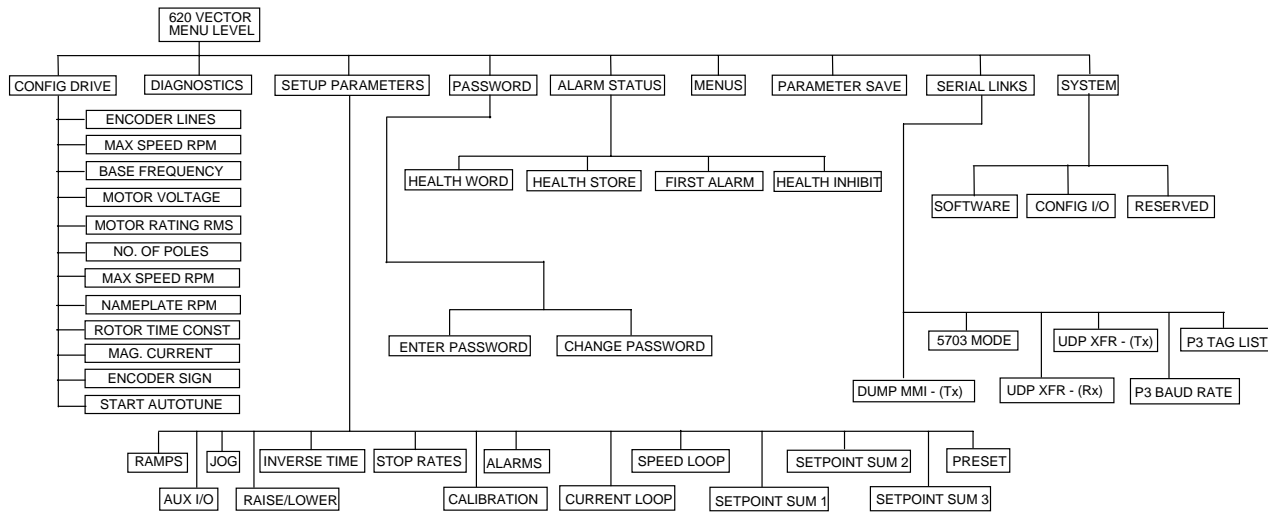

Figure 4.3 - Main Menu Options
The MMI comprises several hundred menu options (shown in Figure 4.3). The    and  buttons navigate through the menus.
The options available to the user from the main menu are given in Figure 4.3. These options are briefly described in the following paragraphs which include references for further details.
1. Press (M) (M). The display will show 'MENU LEVEL / DIAGNOSTICS'. Pressing the (Δ) and (▽) buttons will enable you to move around the top level menu. Press (Δ) until the display shows **CONFIGURE DRIVE** (if you miss **CONFIGURE DRIVE** or any other menu item, either use the (▽) button to get back or keep pressing (Δ) until **CONFIGURE DRIVE** is displayed again). You will be navigating the Initial Setup menus shown at the extreme left of Fig 4.3.
2. Ensure that the '**CONFIGURE DRIVE**' menu is selected on the display. Press (M) to enter this menu. When you enter the menu, the first parameter to appear on the display will be **ENCODER LINES**. Other parameters may be selected by means of the (Δ) and (▽) buttons. Locate **ENCODER LINES** and press (M) to select this parameter. Use the (Δ) and (▽) buttons to enter the number of lines on the encoder. When you have entered the correct number of encoder lines, press (E) to return to the previous level where the remaining parameters may be accessed.
3. Press (▽) to select **MAX SPEED RPM** and then press (M). This entry sets the maximum rotation speed for the process, and can be up to 9 times the motor base speed printed on the nameplate if required. (This speed will be the 100% speed referred to elsewhere in the MMI). Use the (Δ) and (▽) buttons to set the **MAX SPEED RPM** parameter to the required figure. Press (E).